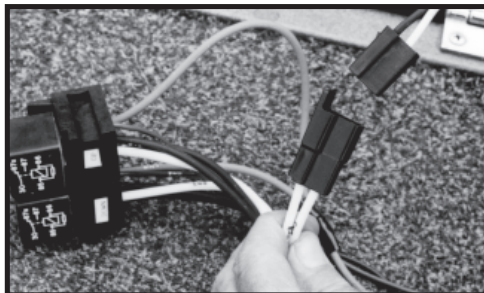

Fig. 16
- Step 14: Connect the 2-wire male connector from the hydraulic power unit to the female 2-wire connector at the end of the wire assembly (Fig. 16).